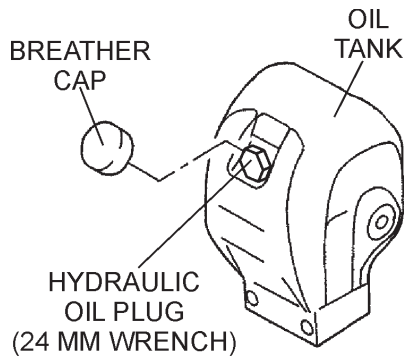

Figure 6. Hydraulic Oil Filler Plug Removal
2. Remove the hydraulic oil breather cap located at the top of the hydraulic oil tank (Figure 6).